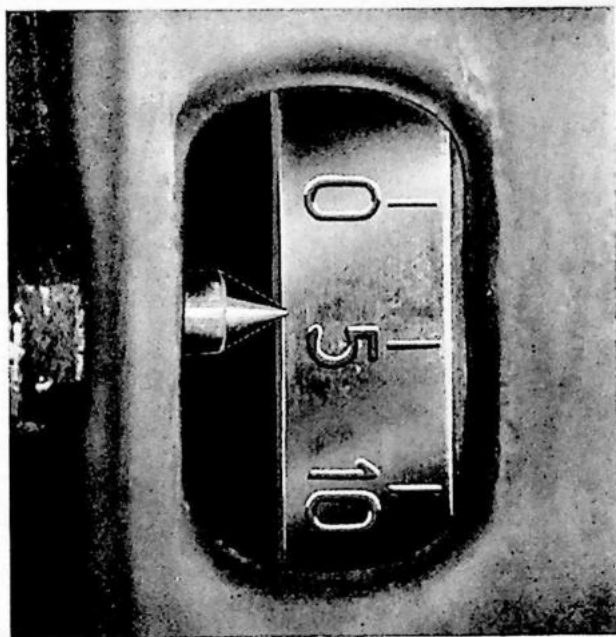

Fig. 67. Flywheel markings.
2. Turn the crankshaft about 1/4 of a turn backwards and then forwards again to the firing position, see the specifications, page 53. When rotating forwards check that the indicator pointer, Fig. 67, is registering the correct reading but does not go past it. If the crankshaft is rotated too far it should be rotated backwards and forwards again to the correct position so as to avoid a faulty reading depending on gear backlash.